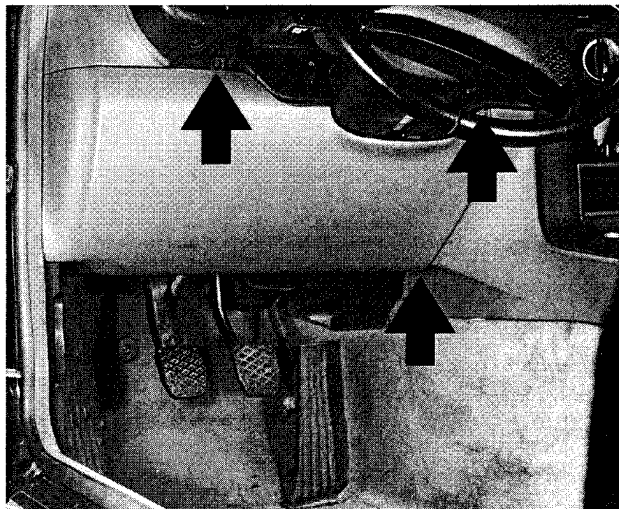

Fig. 3. Lower left dash panel retaining screws (arrows).
1. Remove lower dash panel retaining screws. See Fig. 3.